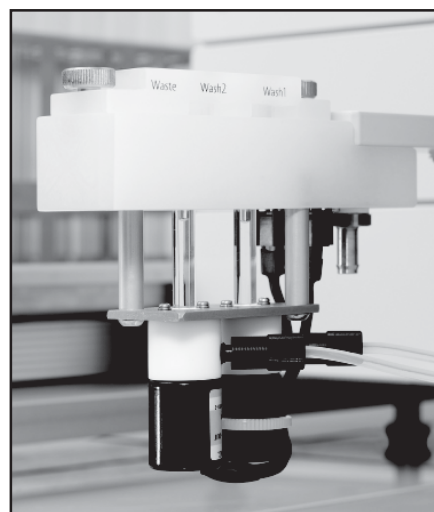

Figure 4. Dual-solvent wash station allows for thorough washing with different solvents.
- A dual-solvent wash station to run wash cycles with different solvents (Figure 4).